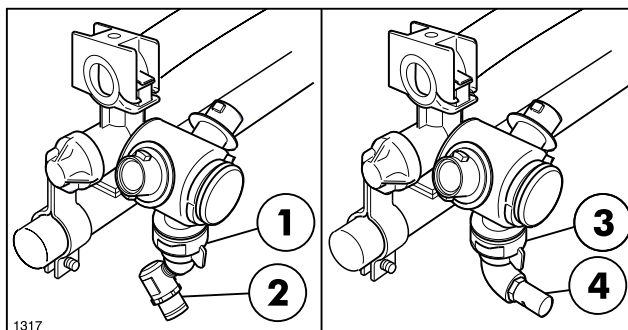

FIG. 3
NOTE: The Nozzle you are using dictates which Nozzle Cap you will use. Use the 45° Nozzle Cap with Raindrop Nozzles and the 90° Nozzle Cap with the Turbo TurfJet Nozzles. See FIG. 3.
8. Install nozzles into the Boom Caps. See FIG. 3.
9. Attach the (11) Nozzles to Turret Bodies by locking them into place.